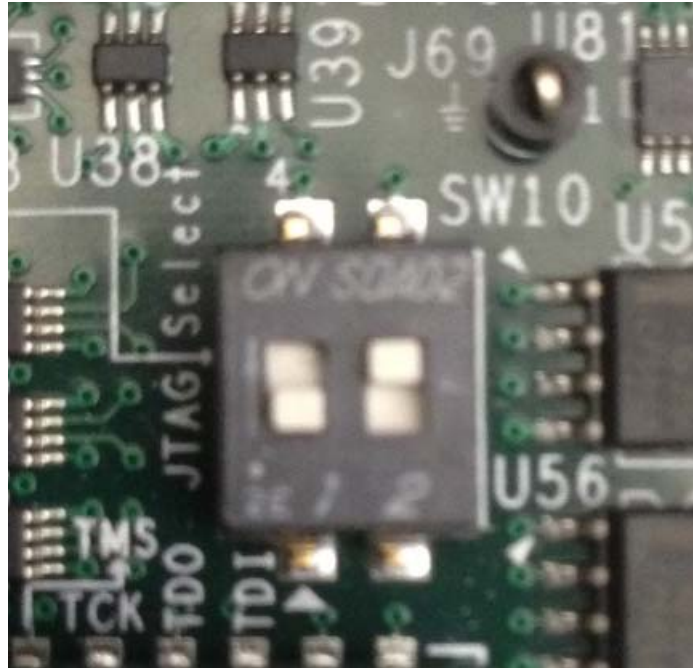

Figure 5-8: SW4 on a ZC702 Set to use Digilent USB JTAG
2. Connect a Digilent cable between the Windows host machine and the target board with the following SW10 switch settings, as shown in Figure 5-8, page 59.